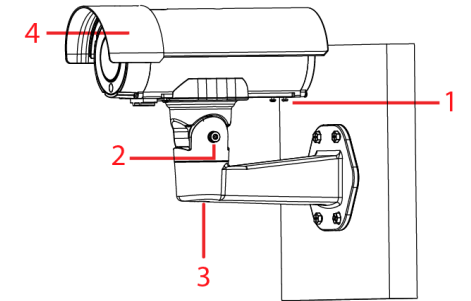

Figure 6
- Flip the camera so that it sits properly on the mounting arm plate and secure it to the mounting arm plate with the four T10 screws (1) (Figure 6).
- A. Use the T10 security Torx wrench to adjust the bracket Tilt angle (2) (Figure 6) and to adjust the bracket Pan angle (3) (Figure 6).
- A. Move the sun shield hood (4) (Figure 6) forward and backward to adjust the position of the sunshade.